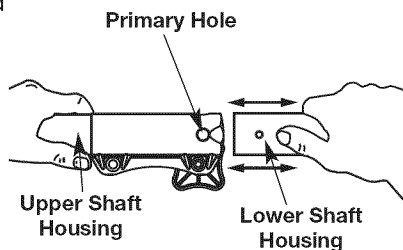
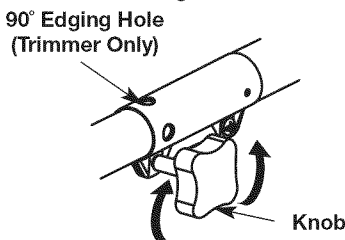

Fig. 6
Fig. 7
1. Turn the knob counterclockwise to loosen (Fig. 7).
3. While firmly holding the upper shaft housing, pull the trimmer attachment or other attachment straight out of the Convertible™ coupler (Fig. 6).
**CAUTION:** Before operating this unit, be sure that the release button is fully snapped into the primary hole (Fig. 6), and that the knob (Fig. 7) is securely tightened.
1. Turn knob counterclockwise to loosen (Fig. 7).
2. While firmly holding the trimmer attachment or other attachment, push it straight into the Convertible™ coupler until the release button snaps firmly into the primary hole (Fig. 6).
3. Turn the knob clockwise to tighten (Fig. 7).
For decorative edging with the line head trimmer attachment or other attachment, lock the release button of the attachment into the 90° hole (Fig. 7).